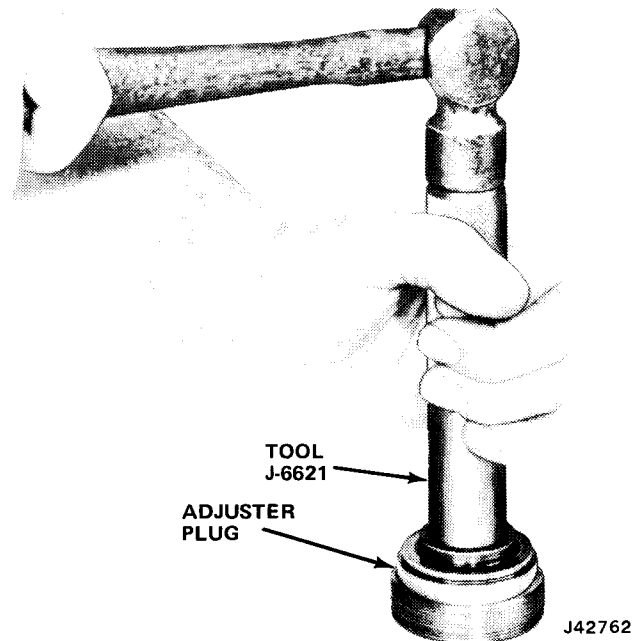

Fig. 11-91 Installing Needle Bearing in Adjuster Plug
(8) Install needle bearing in adjuster plug by pressing from thrust bearing end of adjuster plug against identification end of bearing, using Tool J-6621 (fig. 11-91). The end of the bearing must be flush with bottom surface of stub shaft seal bore.